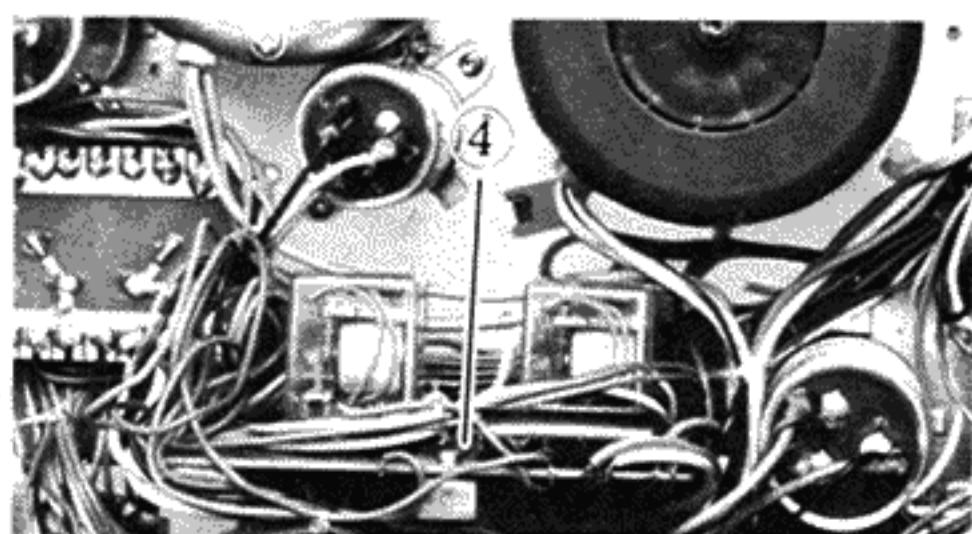

Fig. 11-4
4) Relay circuit board (Fig. 11-4)